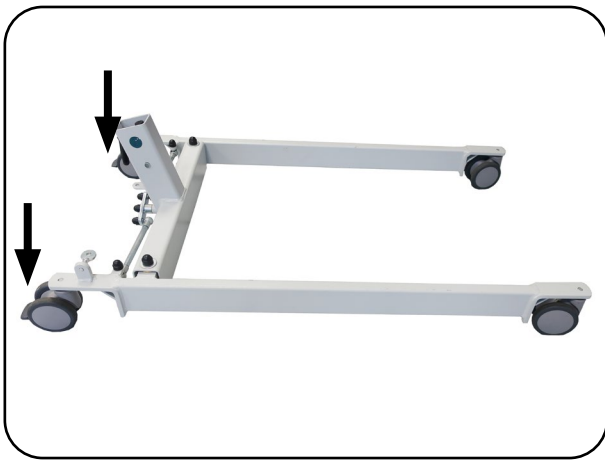

Fig. 6.2.01 - Chassis
2. Place the chassis with the castors on the floor (Fig. 6.2.01).
3. Brake the two rear castors on the operator side by activating the foot lever (Fig. 6.2.01); see chapter on Operation, section **Castors**.
19. Release the brakes on the two rear castors on the operator side by activating the foot lever (Fig. 6.2.01); see chapter on Operation, section **Castors**.